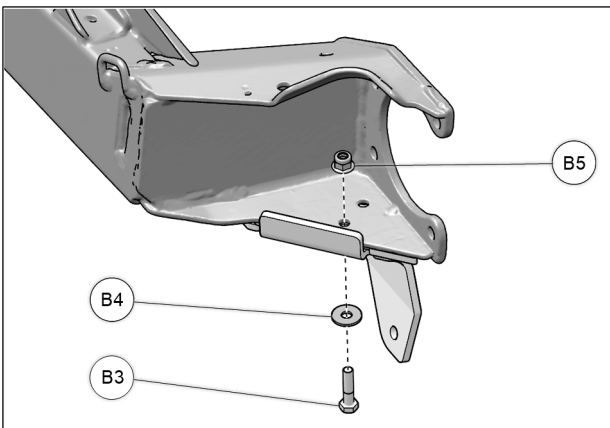

Fig. 5
5. From the bottom, insert a M8x35mm bolt (B3), along with washer (B4), at the position shown below, and secure anchor bracket with provided nut (B5). Tighten to 40 N•m [37 lb•ft]. See Fig. 5